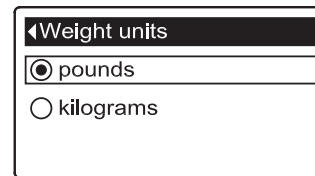

FIG. 53
5. Press the SELECT (O) button to display the Weight units menu (See Figure 53).
6. If the desired weight unit already has a black dot next to it (See Figure 53), go to Step 7. Otherwise, press the DOWN (▼) or UP (▲) buttons to scroll to the other weight unit, then press SELECT (O) to choose it.
7. Press the SELECT (O) button. The display will go back to the User preferences menu.